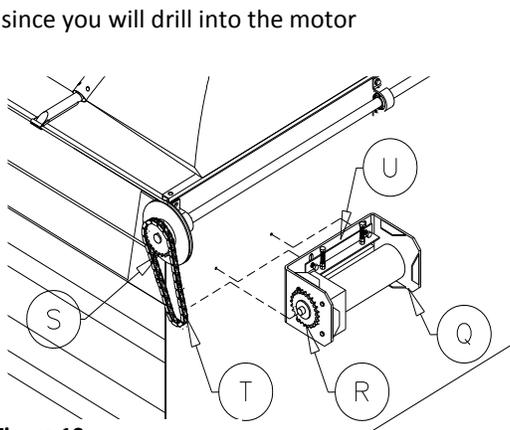

Figure 19
**Note:** The 4" sprocket (S) is to be located on the passenger side of the front shaft (see Figure 19).
**Procedure:** Mount the motor bracket (Q) on the front passenger side of the trailer. Hang the chain (T) from the front shaft #40x24 sprocket and the #40x24 sprocket (R). Stretch out the chain until the appropriate tension and positioning are achieved. Align the #40x24 sprocket (R) with the #40x24 sprocket (S). Using a 3/8" drill bit, drill through the lower end of the slots in the motor bracket (Q) and through the front of the trailer (see Figure 19). Fasten the motor bracket (Q) and motor tensioner brackets (U) (top of the bracket) to the trailer with the 3/8"x1-1/2" hex bolts, 3/8" flat washers, and 3/8" nylon lock nuts provided.